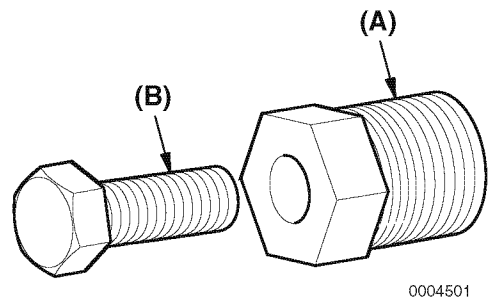

Figure 15
2. Install puller (**Figure 15, (A)**) in the impeller.
3. Turn the jack screw (**Figure 15, (B)**) clockwise to remove the impeller from the pump body.